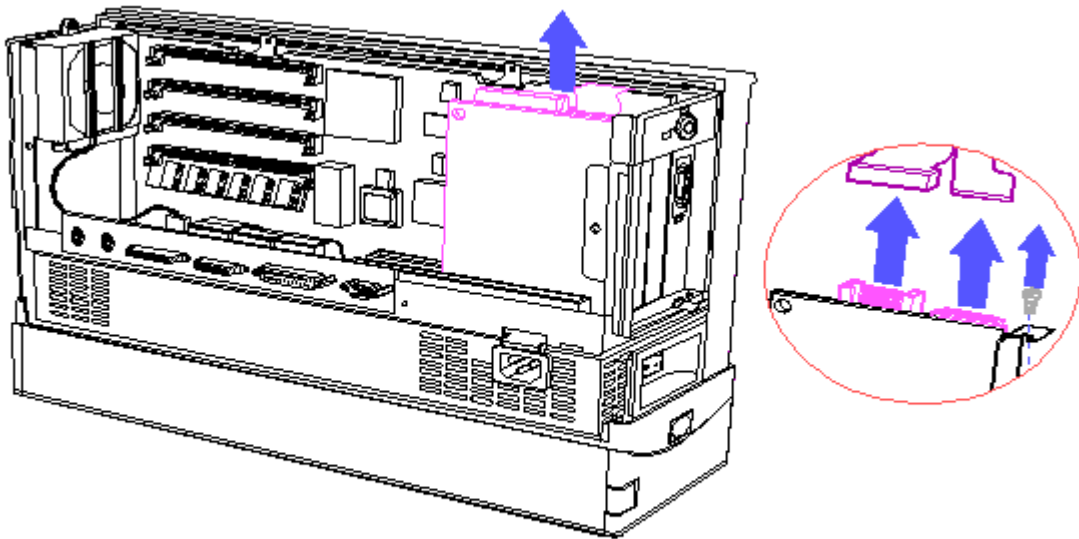

Figure 5-9. Removing the Video Board
(Figure 5-9).
5. Carefully disconnect the video cable from the video board (Figure 5-9).
6. Using a Torx T-10 screwdriver, remove the screw securing the video board (Figure 5-9).
7. Carefully pull the video board out of the slot (Figure 5-9).